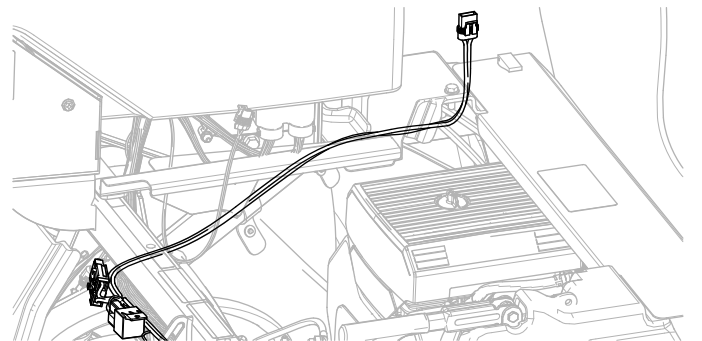

Figure 5
2. Route the power harness under the right side of the shock-support tube and under the bottom console cover (Figure 5).